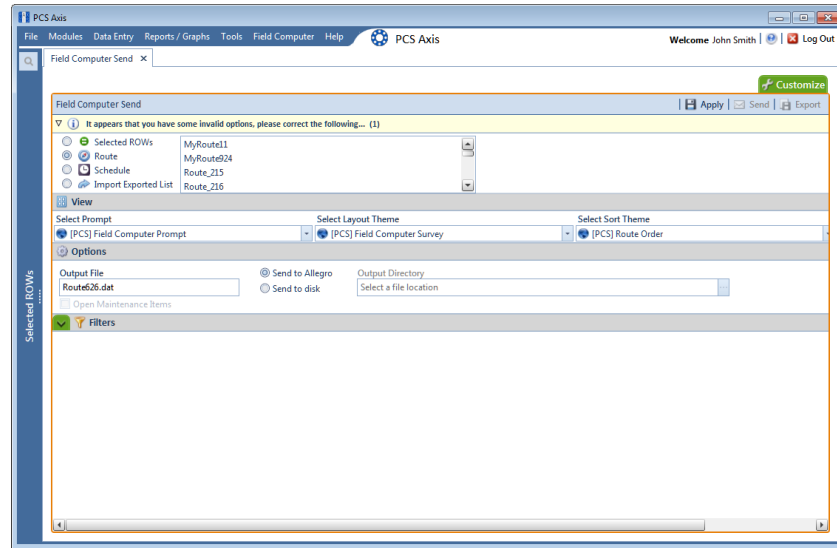

Figure 13-26. Field Computer Send Based on Route
- a Click the **Route** option and then select a route in the selection box (Figure 13-26, page 622).